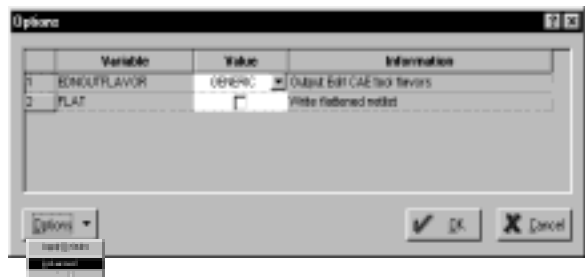
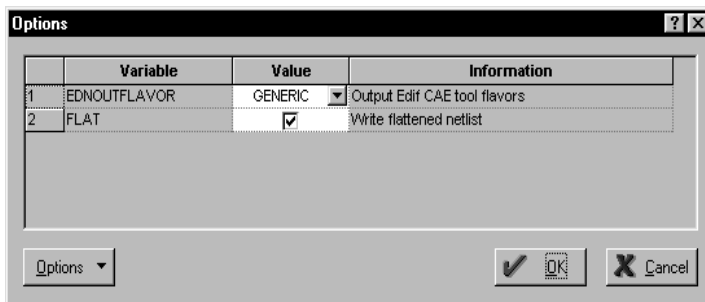

Figure 6-22. Write Netlist Options dialog box
Figure 6-23. Write Netlist Options with Advanced Features Enabled
2. **Click the Options button.** This displays the Write Netlist Options dialog box, as shown in Figure 6-22.
3. **Click the options pull-down and select advanced, as shown in Figure 6-22.** This displays advanced features of the Write Netlist Options dialog box, as shown in Figure 6-23.
4. **Check the Flat checkbox.** This enables the flatten netlist feature, as shown in Figure 6-23. Click OK.